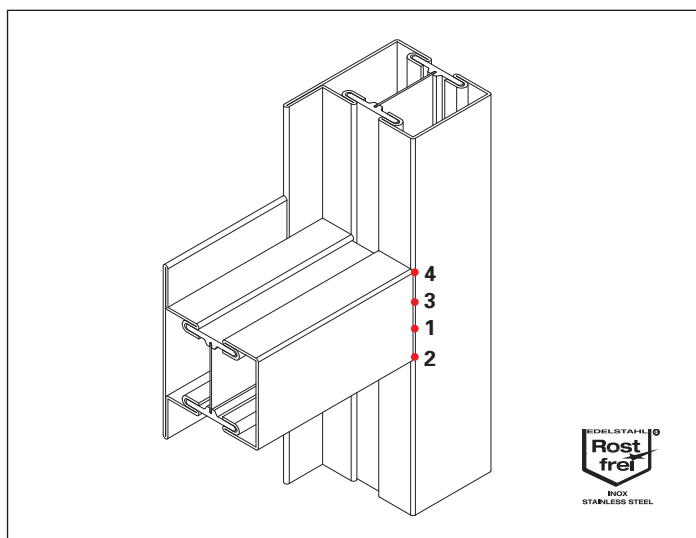

Fig. 151 Tack the T-mid-rails to the smaller surface every 10 to 15 mm (2-4) beginning in the centre (1)
5. Insert and tack any mid-rails (Fig. 151/152)